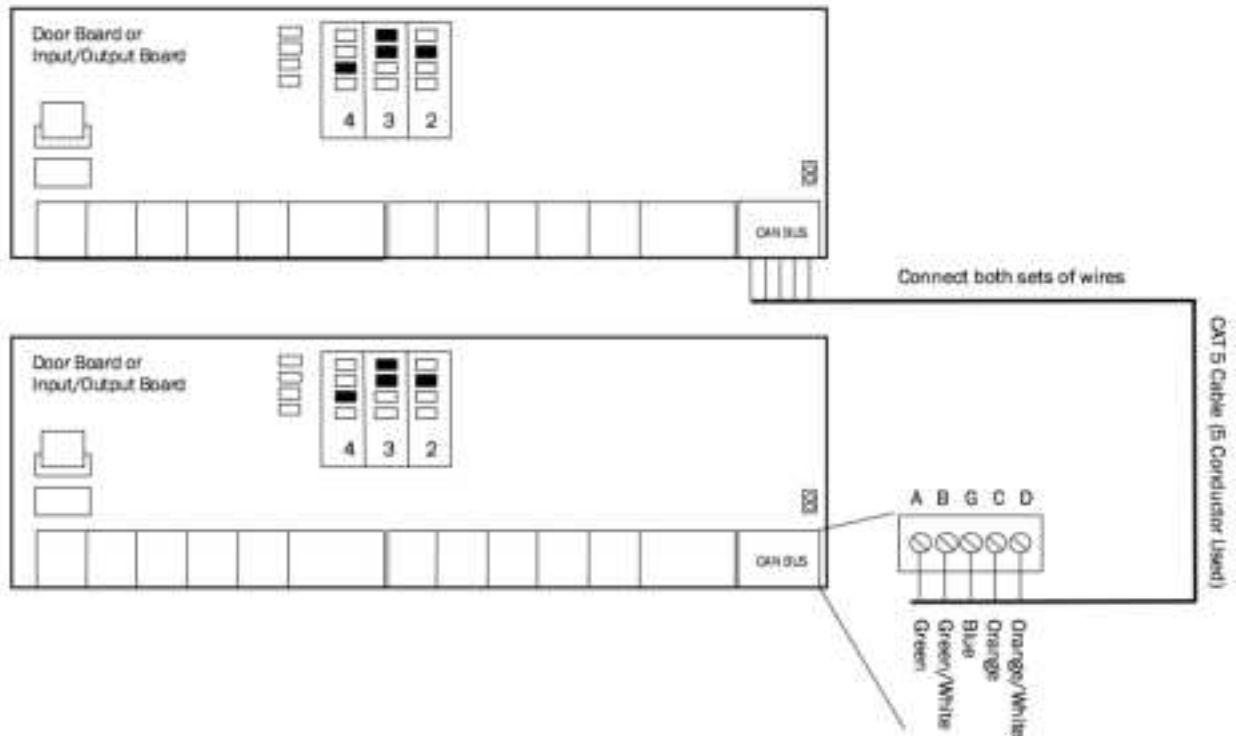

Figure 11 - Connect Expansion Boards in Expansion Chassis
- b) To daisy-chain the boards together: (See Figure 11 below.)